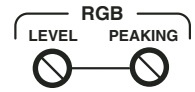

Figure 7. Level and Peaking
- **Pre-Peak switch (transmitter)** – View the image and set the Pre-Peaking switch (5). Set this switch to On (up) to compensate for long cable runs of the entire system.
- **Level control (receiver)** – View the image and adjust the Level control (see figure 7). Full counterclockwise is minimum level.
- **Peaking control (receiver)** – View the image and adjust the Peaking control (see figure 7). Full counterclockwise is zero peaking.